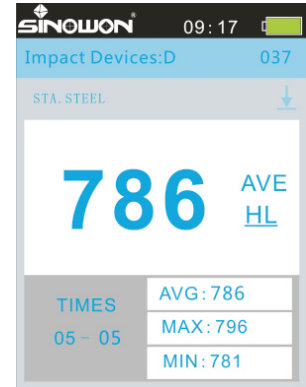

Fig 4-2-1
- LCD shows impact device after connect well, fig 4-2-1 shows the impact device is D.
- After unloading, it shows result and test number increase 1; if exceeds set permitted error, made 2 sounds and LCD show ↑ or ↓. And will not include test group. If test number reached setting, make 2 sounds, see fig 4-2-1.